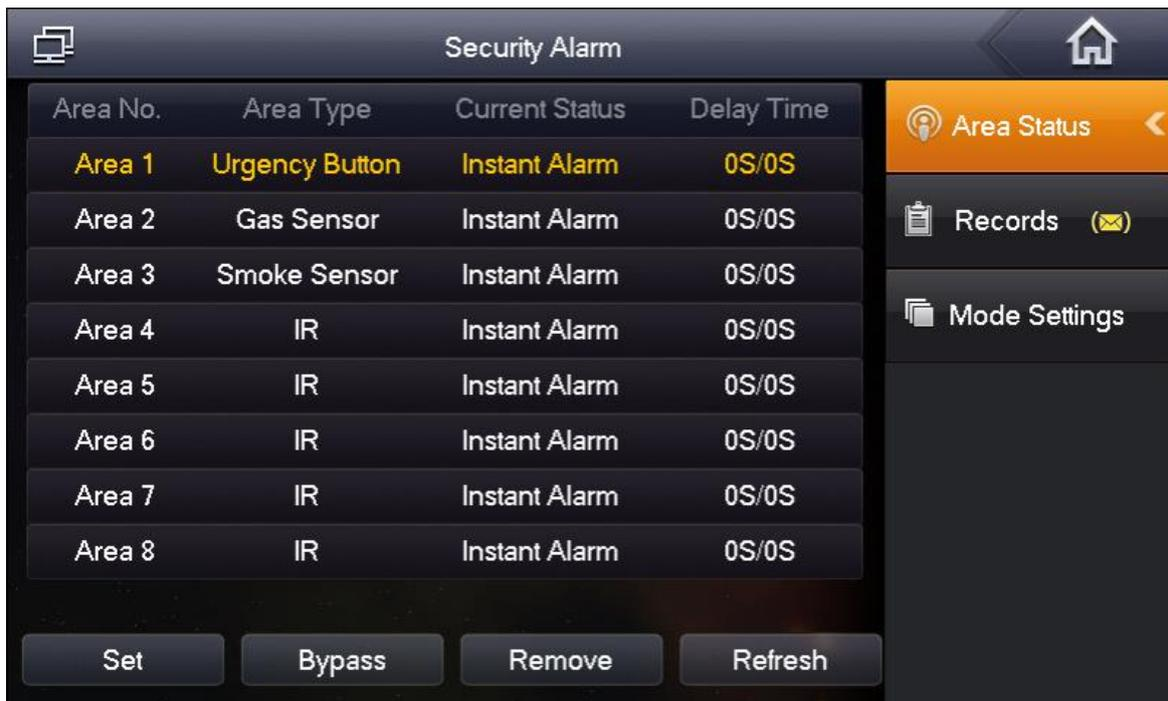

Figure 3-16
Step 1. Select Security>Area Status, see Figure 3-16.